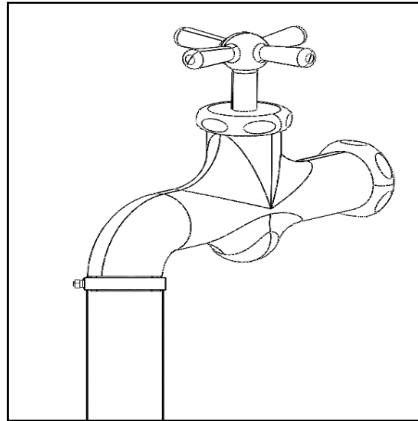

FIGURE 2-5
2. Attach the hose to a tap, push the hose over the tap (Fig. 2-5).
4. Turn on both the water tap (Fig. 2-5) and the water valve (Fig. 2 – 6).